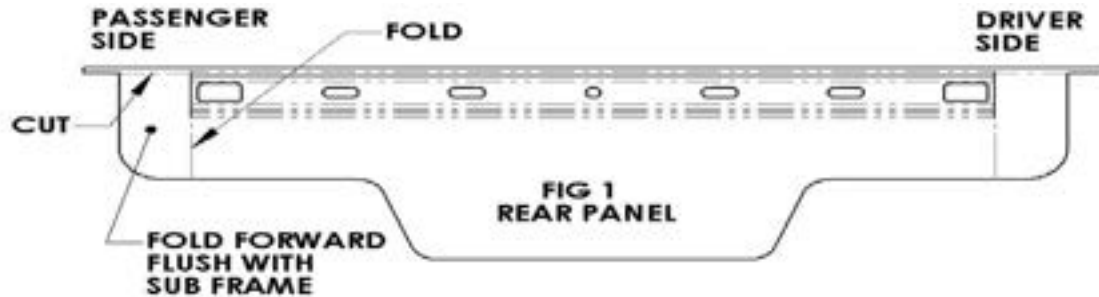

Fig 2
5. Mark then drill driver side chassis rail as per fig 2 with 11mm drill bit.